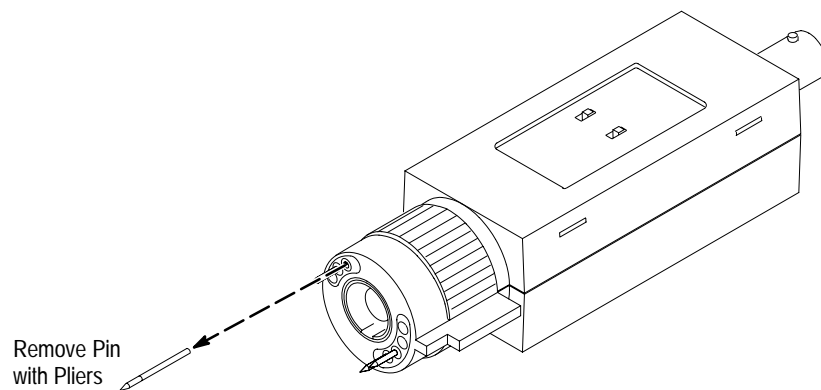

Figure 18: Replacing the Contact Pins
1. Using a pair of needle-nosed pliers, grasp the damaged pin and pull the pin straight out of the assembly (see Figure 18). Note the location of the removed pin.